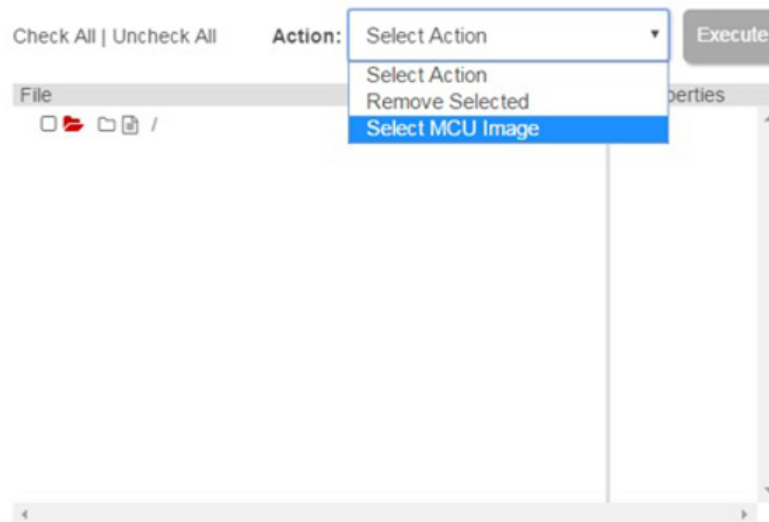

Figure 2-16. Select MCU Image
2. Select Select MCU Image from the Action drop-down menu, as shown in Figure 2-16.